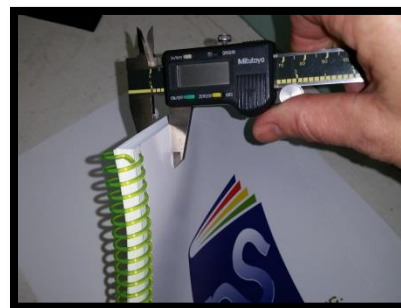

Figure 8
- To setup the machine for binding books you must first measure the thickness of the book to decide the correct diameter coil to be used. Use the chart located in the back of this manual as a guide. Digital calipers are the best way to measure the thickness of a book but a tape measure will also work. Figure 8